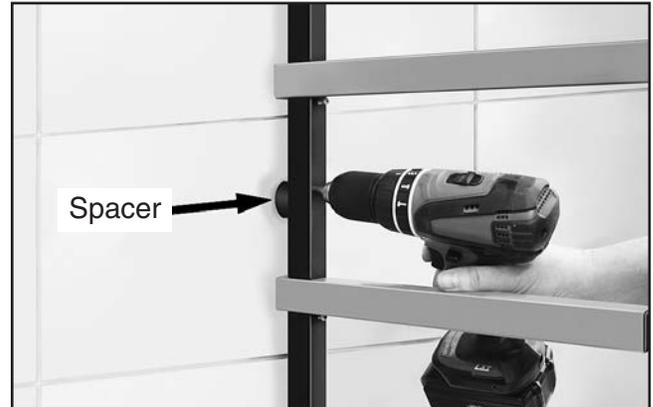

Figure 4. Mounting wood rack to wall.
- Place spacers behind each mounting hole (2 holes per vertical bar, see **Figure 4**), and fasten through wall and into a stud with appropriate mounting fastener (not included).